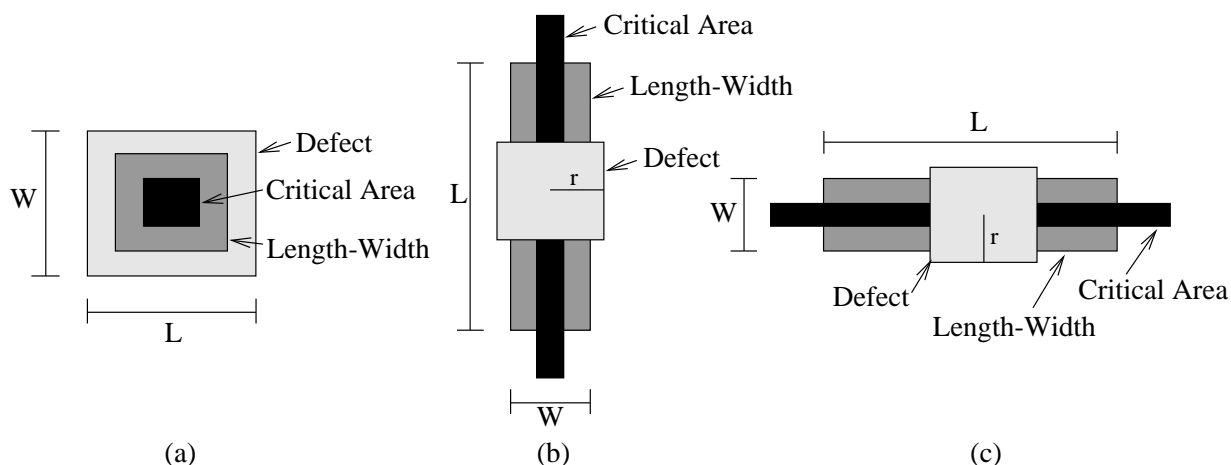
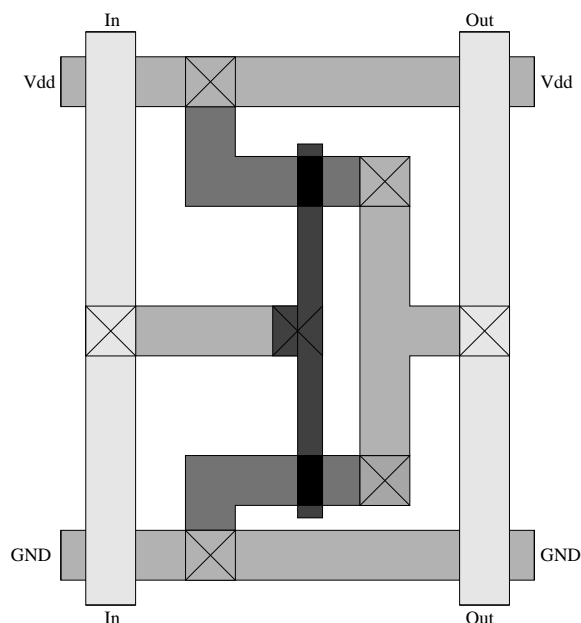
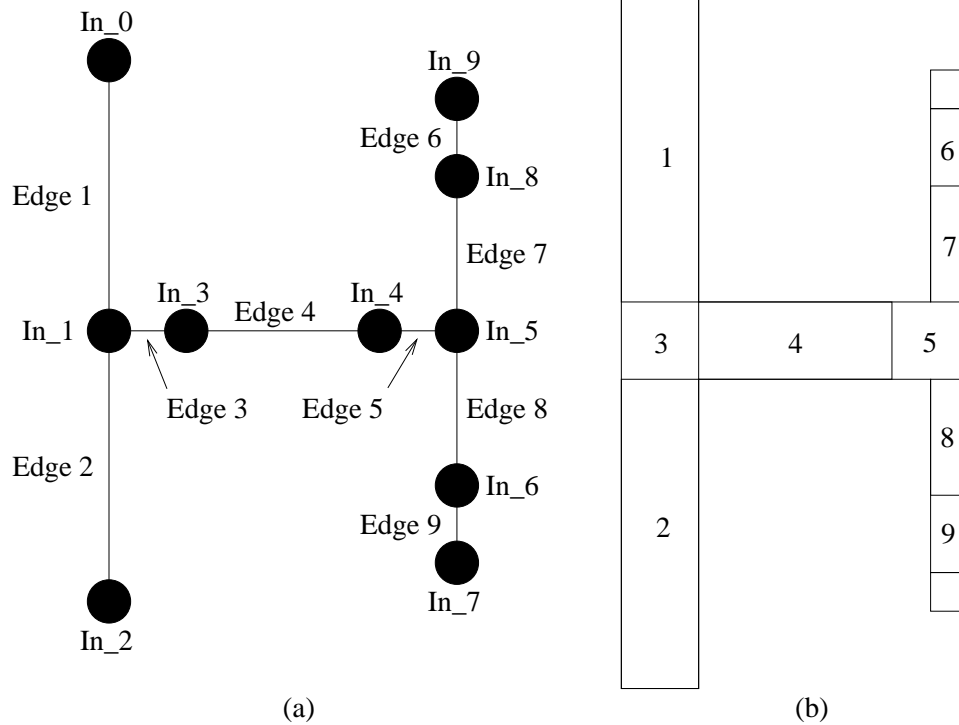
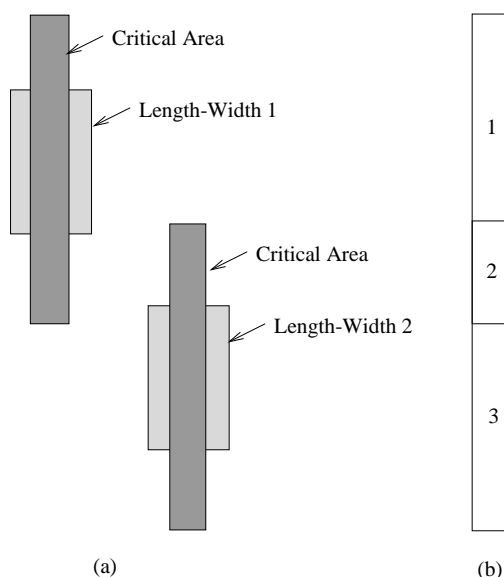

Figure 4.5: Critical areas for length-widths: (a) diagonal, (b) horizontal, (c) vertical. Note that these critical areas were computed with **fringe** on.
Figure 4.8: The layout of a typical standard-cell inverter.
Figure 4.9: Conversion of the In node to a graph: (a) the graph of the node, (b) the length-widths attached to the graph edges.
Figure 4.10: (a) Critical areas for two length-widths 1 and 2, (b) Regions formed by overlapping critical areas.
depend on the orientation of the conductive material being bridged. Figure 4.5 shows the critical areas for these length-widths.
Figure 4.8 shows a simple inverter. Figure 4.9 (a) shows the graph constructed for the `In` node and Figure 4.9 (b) shows the length-widths associated with each edge in the graph. There are three kinds of length-widths: vertical, horizontal, and inter-layer. Length-widths 1, 2, 6, 7, 8 and 9 are vertical length-widths, 4 is a horizontal length-width, and 3 and 5 are inter-layer length-widths. The critical areas for the vertical, horizontal, and inter-layer length-widths are the same as the horizontal, vertical, and diagonal length-widths shown in Figure 4.5, respectively.
Carafe reports break faults by listing the pairs of nodes that are disconnected by the breaks. For example, if length-width 1 from Figure 4.9 (b) were to cause a break, Carafe would report the following break:
Note that in Figure 4.9 (b) length-width 3 is a metal 2 contact break so it does not interact with any other fault primitives during compound fault extraction. Carafe does not
extract break primitives at junctions like that in Figure 4.9 (b) where vertex In_1 is located. Instead, Carafe depends on the critical areas from breaks around the junction to overlap in order to detect the break. Figure 4.10 shows the two critical areas for length-widths 1 and 2 from Figure 4.9 (a) for some defect size. Figure 4.10 (b) shows the resulting overlapping critical areas. Region 1 represents the critical area for the break:
- Transistor gate bridge/breaks are reported even if nothing is separated by the break. Consider the circuit shown in Fig 4.8. Transistor bridge/breaks would be reported for both transistors even though the polysilicon on one side of the transistor is just a stub.